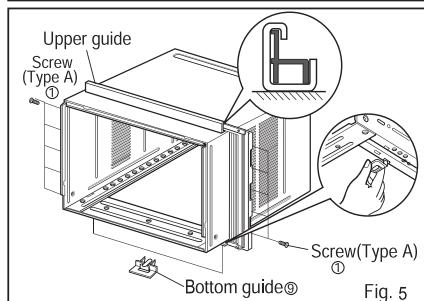

Fig. 5
5. Insert the Bottom guide into the bottom of the cabinet. (Fig.5)
6. Insert the Frame Curtain into the Upper Guide and Frame Guides.(Fig.5)
7. Fasten the curtains to the unit with 8 Type A screws.(Fig.5)
6. The cabinet should be installed with a very slight tilt (about 1/2") downward toward the outside (See Fig. 5). Adjust the bolt and the nut of Sill Support ⑥ for balancing the cabinet.
7. Attach the cabinet to the window stool by driving the screws ② [Type B: Length 16mm (5/8 inch) and below.] through the front angle into window stool. (Fig. 5)
8. Pull each Frame Curtain ⑤ to each window sash track, and repeat step 2. (Fig. 5)